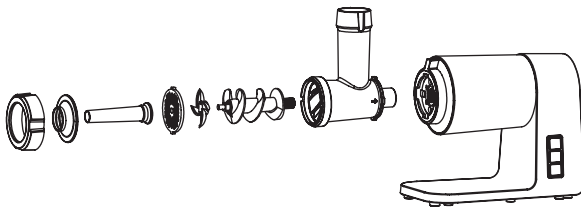

Figure 9.
1. Before starting, assemble the sausage attachment as per shown in the diagram below (fig. 9).